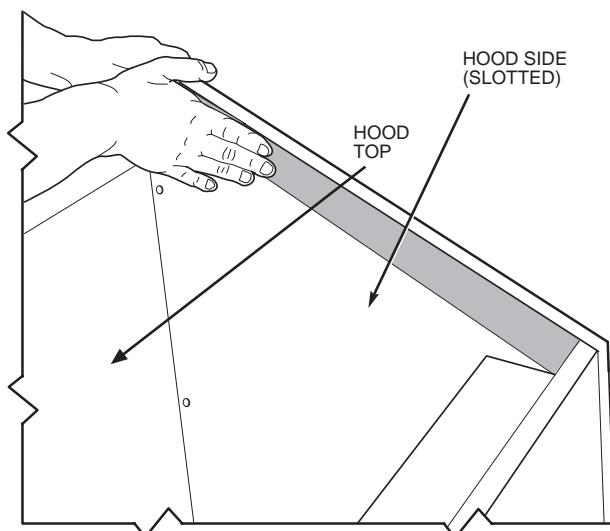

Fig. 21 — Adding Foam Strip to Hood Side
- g. Place gray foam strip on inside of slotted hood side between filter and cross member opposite mounting end. See Fig. 21.